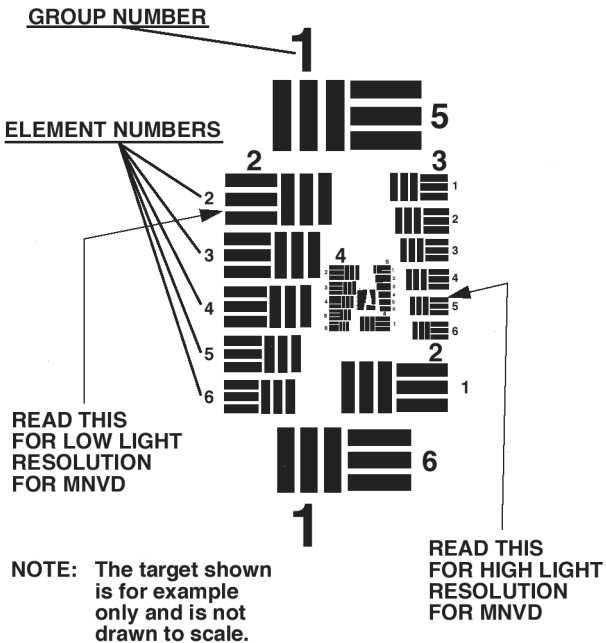

Figure 2-2. TS-4348/UV Test Set Pattern.
- (1) Place the HIGH/LOW switch on the test set to the LOW position.
- (2) Install the LIF per paragraph 2-10.
- (3) Turn off the room light and let your eyes adjust to the dark.
- (4) Turn on the test set by setting the “II/OFF/III” switch to the “III” position.
- (5) Turn on the monocular and insert it into the test port on the test set.
(6) Look through the monocular and view the projected pattern (see Figure 2-2). If necessary, focus the eyepiece lens and then the objective lens to obtain the sharpest image.
(7) The MNVD monocular must be able to resolve Group 2, Element 2, under low light conditions to pass the test. If the MNVD does not pass the test, return it to maintenance for repair. The operator must document resolution failures on the maintenance record.
(8) Flip the HIGH/LOW switch to the HIGH position.
(9) Again, look through the monocular and view the projected pattern (see Figure 2-2). If necessary, refocus the objective lens and then the eyepiece lens to obtain the sharpest image.
(10) The MNVD must be able to resolve Group 3, Element 5, under high light conditions to pass the test. If the monocular does not pass the test, send it to a higher level of maintenance for repair.